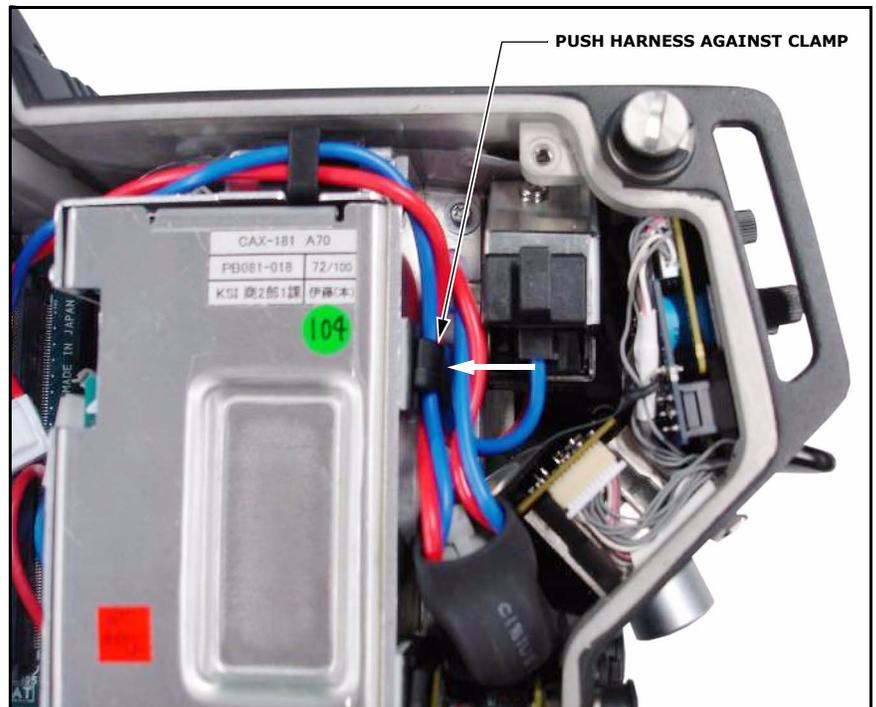

Figure 9
- d. Push the extra length of the harness next to the clamp as shown in Figure 9.